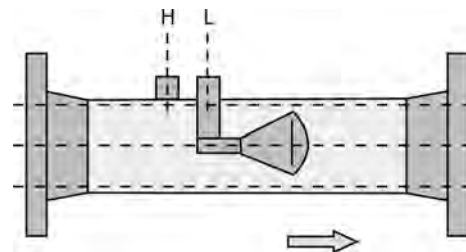

FIGURE 4.16 V-cone flow meter.
- Figure 4.16 illustrates the V-cone flow meter.